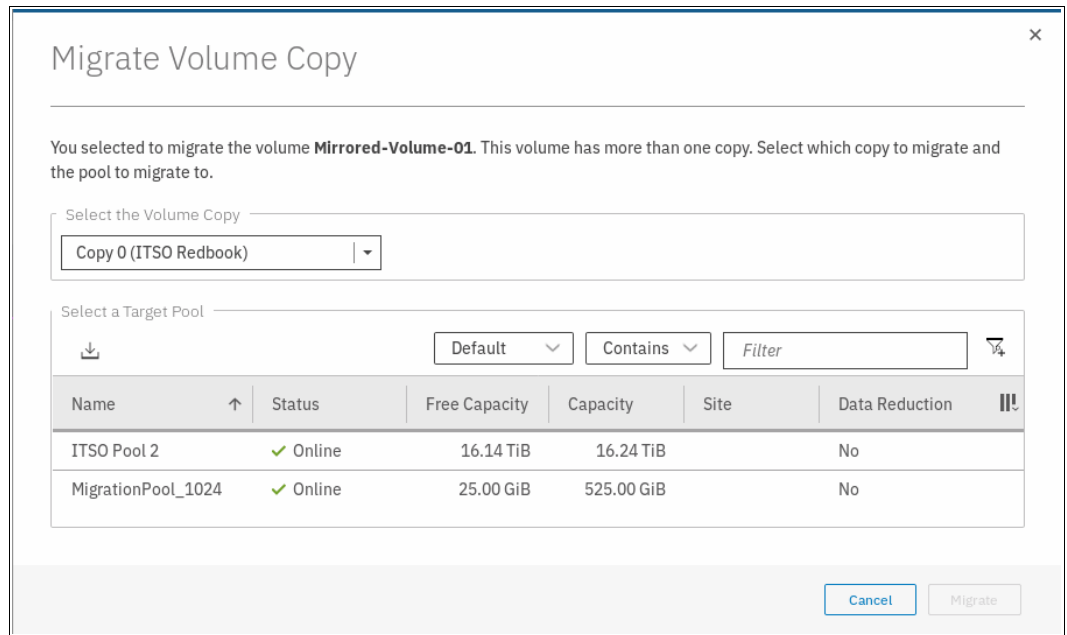

Figure 6-45 Migrate Volume Copy window: Select copy
3. The Migrate Volume Copy window opens. If your volume consists of more than one copy, select the copy (from the menu that is shown in Figure 6-45) that you want to migrate to another storage pool. If the selected volume consists of one copy, this selection menu is not available.